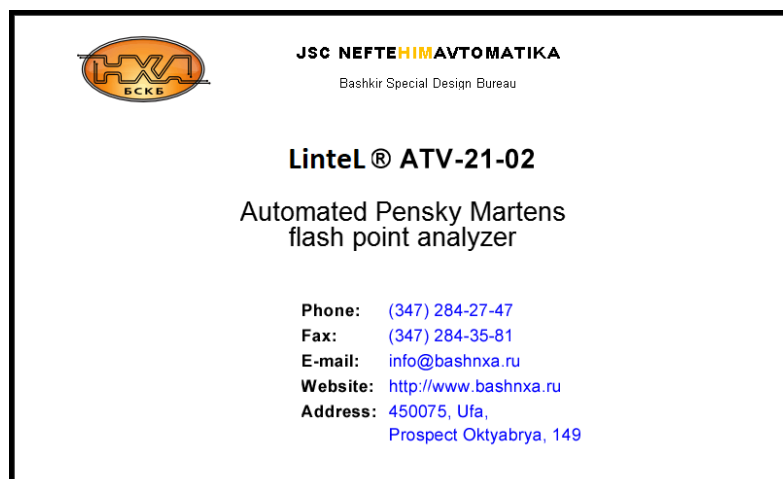

Figure 3 - Splash screen
3.3.3 After turning on the power, the device screen displays information about the operating system booting. Then the information shown in figure 3 is displayed.